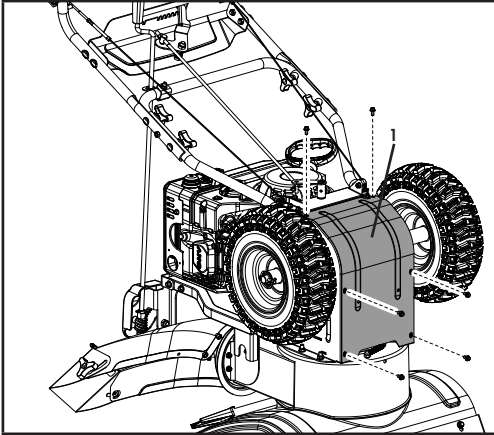

Figure 26
- Remove the base frame cover (1) from the underside of the snowblower by removing the six M6 × 16 screws which secure it (Fig 26).